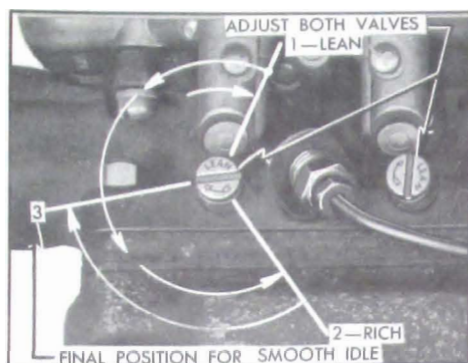

Figure 3-16—Adjustment of Idle Needle Valves
4. Adjust one needle valve at a time (Figure 3-16) to provide smooth idle, as follows: